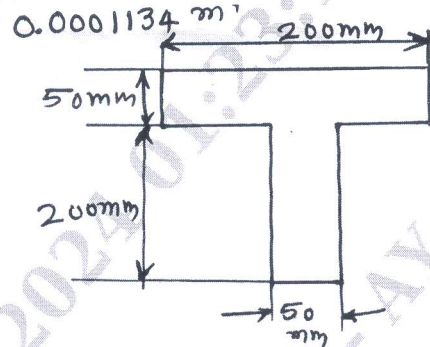

Fig Q4(b)
- b. A T- shaped cross –section of a beam shown in Fig Q4(b) is subjected to a vertical shear force of 100kN. Calculate the shear stress at the neutral axis, junction and flange, moment of inertia about horizontal, neutral axis is 0.0001134 m^4 .